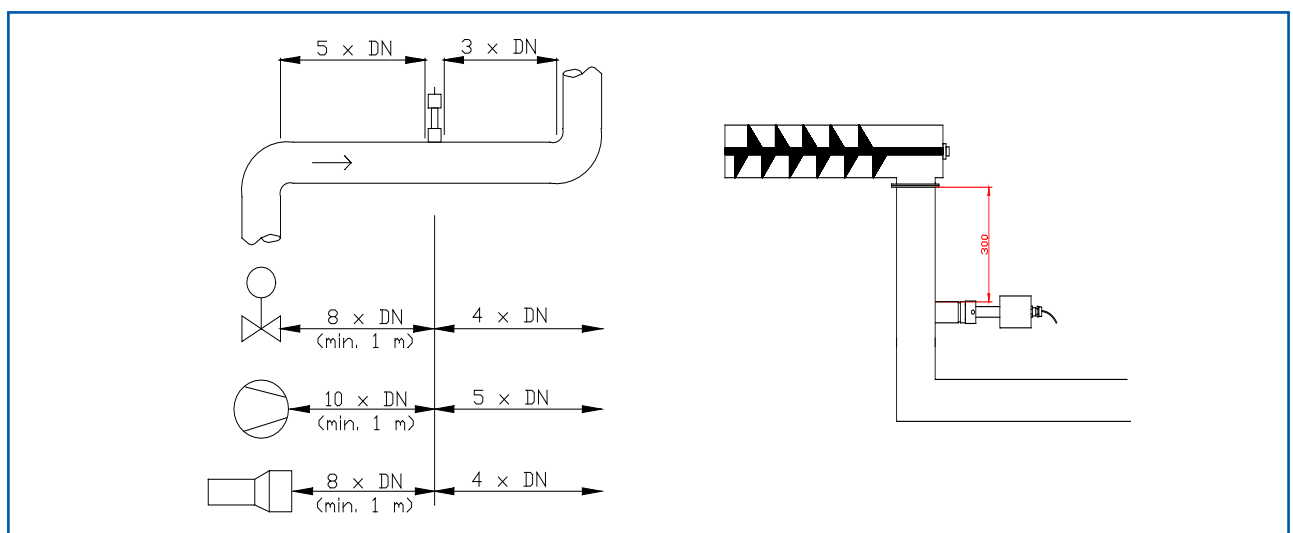

Fig 4: Minimal distances of the sensor to duct bends and baffles.
- Follow the necessary distances of valves, bows, fans or cellular wheel sluices etc. and also other measurement devices like temperature and pressure etc. to the sensor. (see fig. 4)